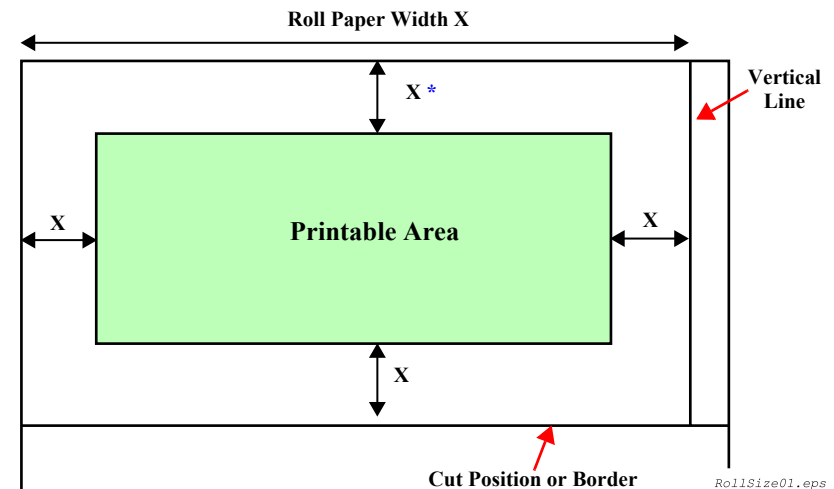

Figure 1-10. Roll Paper Margin (1)
See “Fig 1-10 Roll Paper Margin (1)” (p.65).